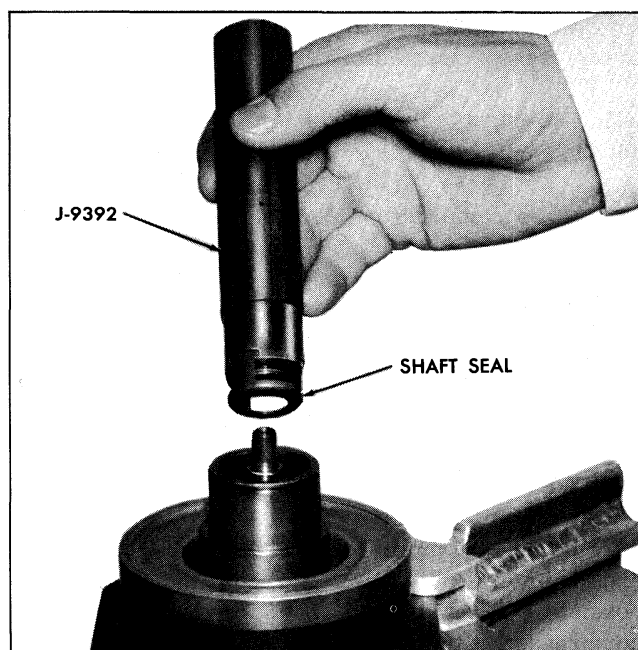

Fig. 5-6 Removing Shaft Seal Assembly
5. Engage tabs on compressor shaft seal assembly with locking tangs on J-9392 seal installer and remover. Press down on tool and twist clockwise to engage seal. Remove seal assembly by pulling straight out from shaft (Fig. 5-6).